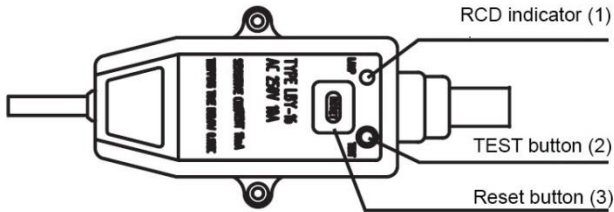

Fig. 5
4. Screw the safety relief valve on the inlet nozzle, which is marked in blue and has a water flow direction arrow in such a way that that the water flow coincides with the direction of the arrow on the valve body. Put the water drainage tube* (water may appear during heating) on the pressure relief port of the safety relief valve to allow water drainage into the sewer (see Fig. 5) (the tube must be directed downwards and must not be bent).